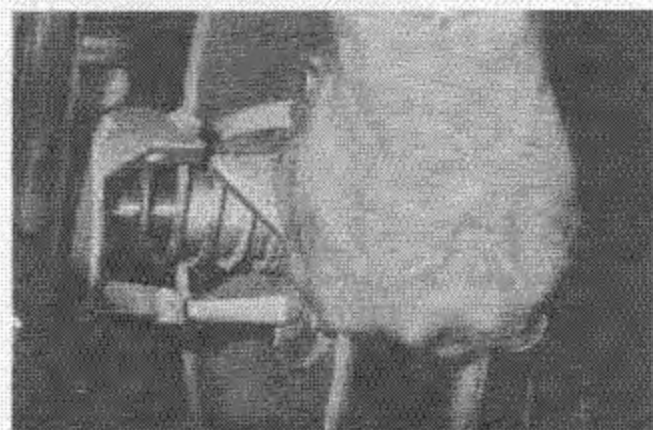

Fig. 49 — Removing Cam and Spring
3. Hold tension on spring and tap cam off shaft and key far enough to clear nylon tabs, Fig. 49. Let spring unwind and remove cam and spring.